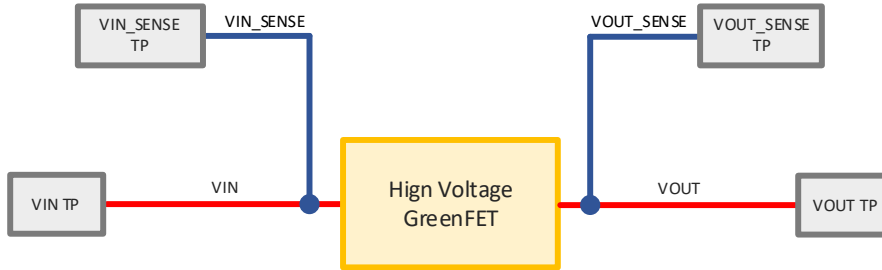

Figure 7. Block Diagram for 4-Wire Kelvin $R_{DS(ON)}$ Measurements
Evaluation Board supports $R_{DS(ON)}$ measurements by using 4-wire Kelvin connection. The connection scheme and Test Points (TP) location on PCB are shown on Figure 7 and Figure 8. Please note that TPs cannot handle high current and are dedicated only for $R_{DS(ON)}$ measurements.